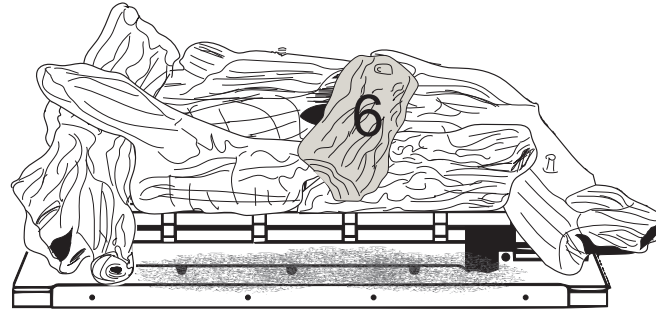

Figure 7 - Log #6 Placement
7. Hold log #6 with the flat end toward the back. Place log #6 by positioning the pin locator hole on the bottom of the log over the pin on log #2 and set on top of log #4. See Figure 7.